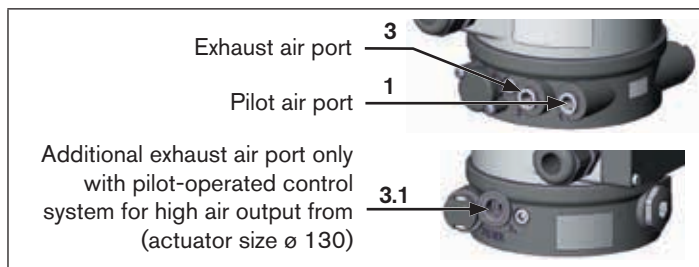

Fig. 8: Pneumatic connection
- Connect the control medium to the pilot air port (“Fig. 8”: 1) (3 – 7 bar; instrument air, free of oil, water and dust).
- Fit the exhaust line or a silencer to the exhaust air port (“Fig. 8”: 3) and, if available, to the additional exhaust air port (“Fig. 8”: 3.1).